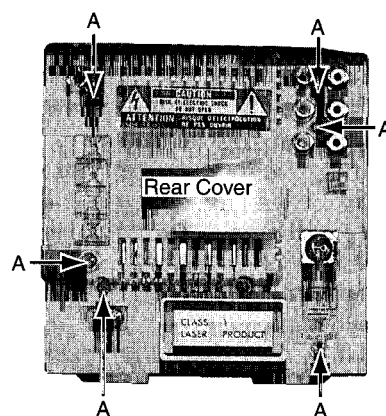

Fig. 1
4. After passing the lock pawls at the speaker terminals through the position in Fig 1 remove the rear cover.